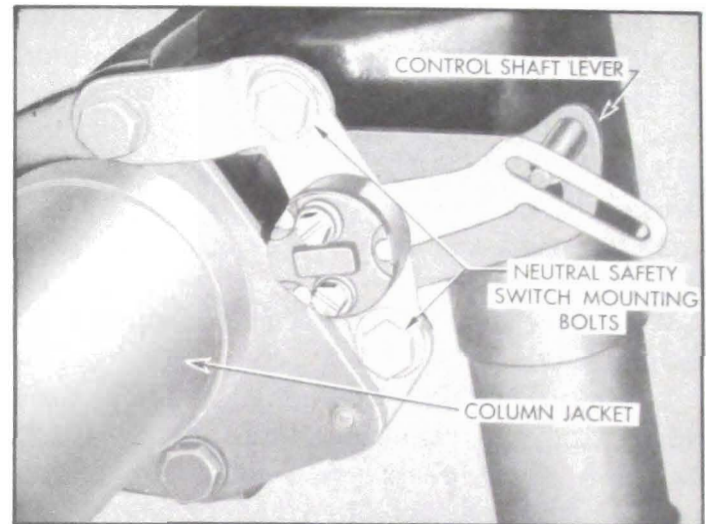

Figure 10-52—Neutral Safety Switch Mounting
3. Loosen the two mounting bolts which hold the safety switch at foot of steering gear column jacket and raise switch up as far as it will go. See figure 10-52.